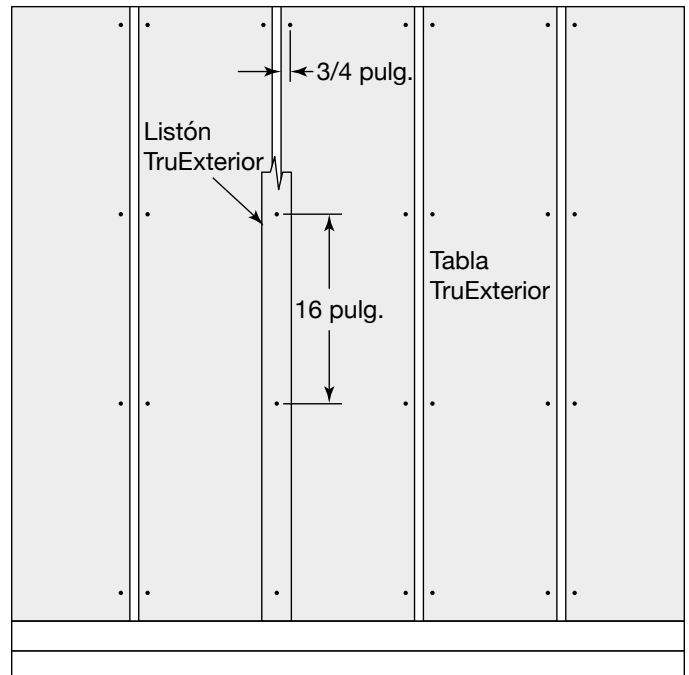

Fig. 4
- When installing boards, use 2 fasteners every 16" to 24", spaced no less than 3/4" from the edge (**Fig. 4**).
- When installing battens, use 1 fastener every 16" placed in the center (**Fig. 4**).